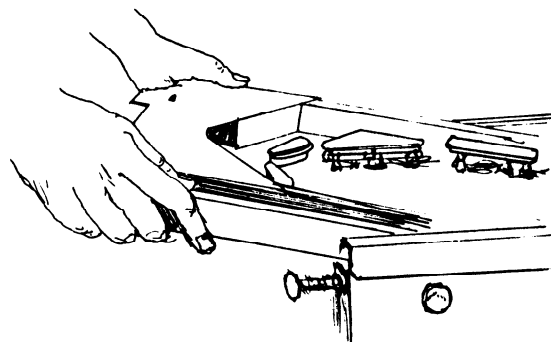

FIGURE 8
5. While standing at the player end of the unit, grasp Ball Return cover and **lift that end of the Playfield approximately 4 inches out of the cabinet.** **NOTE:** If you are unable to lift the playfield adjust each hold down screw (Refer to step 3) while lifting the Playfield until the Playfield is free. (Figure 8).
6. While continuing to stand at the end of the unit, pull the playfield toward you until the rear edge of the playfield drops into the slots cut into the playfield ledge (Figure 8).